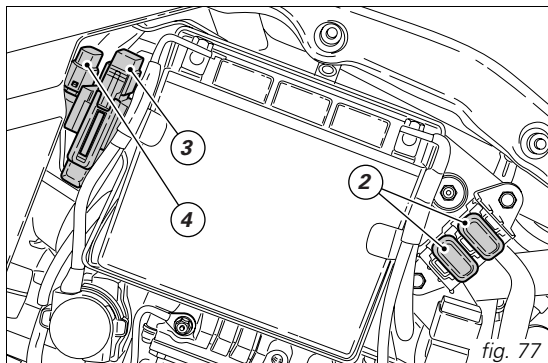

fig. 77
**E** Two fuses (2, fig. 77) located at the side of the battery protect the relay of the injection system and engine control unit.